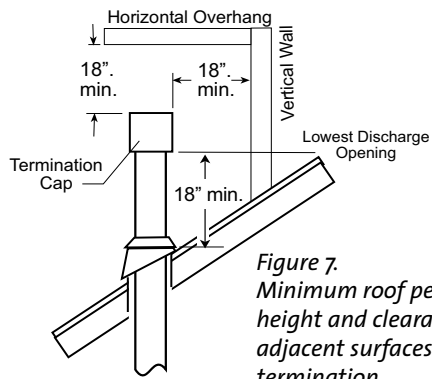

Figure 7.
- GAS VENT HEIGHT: In no case shall any discharge opening on the cap be less than 18" (457 mm) horizontally from the roof surface. See fig. 7.